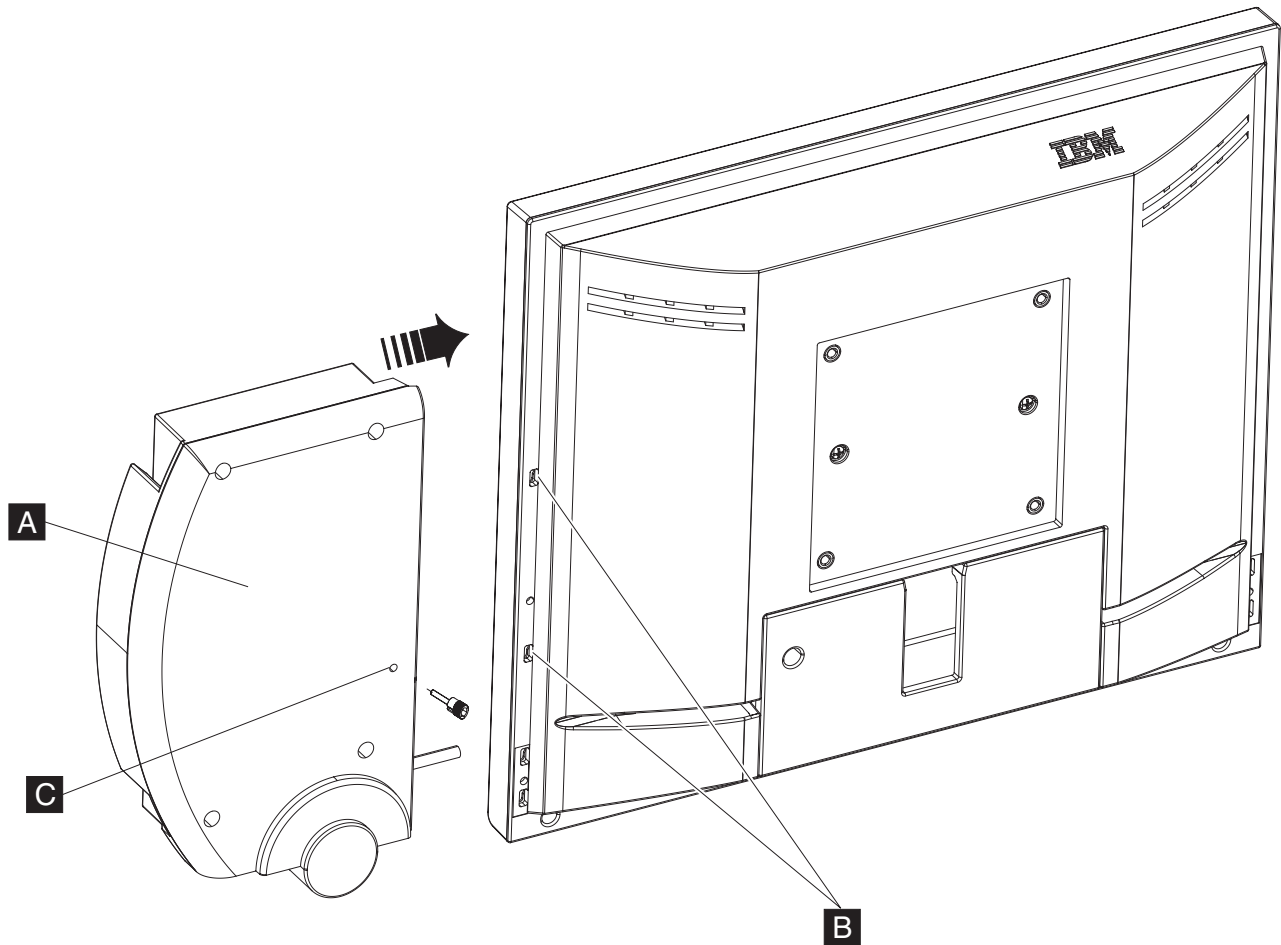

Figure 22. 4820 SurePoint Solution with attached keypad/MSR
2. Align the MSR/keypad (**A** in Figure 22 on page 25) so that the two metal knob connectors on the side of the keypad are positioned slightly above their matching slots **B** on the 4820.